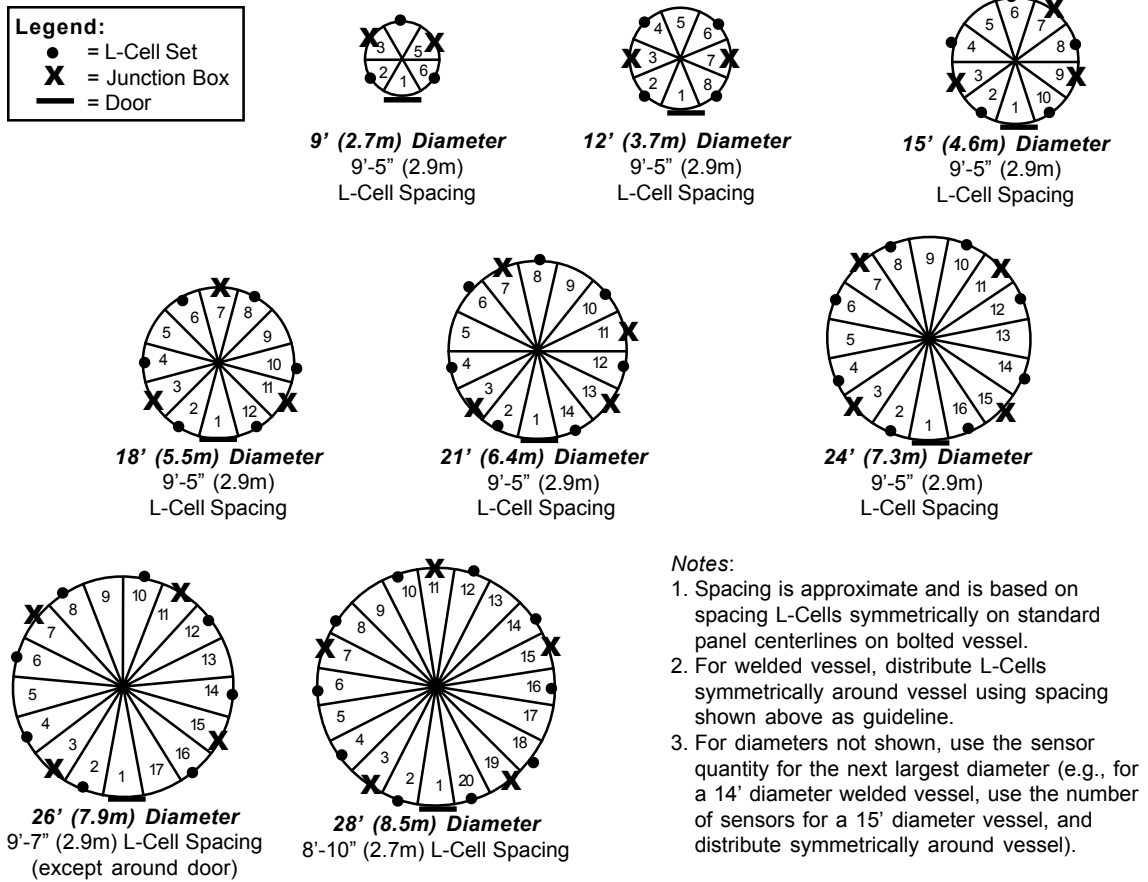

Figure 5-3. Plan View — L-Cell and Junction Box Locations (Carbon Steel)
See Figures 5-3 and 5-4. The skirt-supported vessel manufacturers' industry has standardized on bolted, skirt-supported vessel diameters and number of panels per diameter. Typically, the panels are approximately 5' (1.5m) wide x 8' (2.4m) high, with some overlap between panels. The mounting locations shown in Figures 5-3 and 5-4 are based on this industry standard.
**Example:** The Application Data Form indicates a 12' diameter bolted vessel. From Figure 5-3, a 12' bolted vessel has 8 panels around its circumference.
2. Locate junction boxes on panels 3 and 7. The junction boxes will be wired as follows: panel 3 box to L-Cells (4) on panels 2 and 4, and panel 7 box to L-Cells (4) on panels 6 and 8.
See Figures 5-3 and 5-4. The placement of L-Cells and junction boxes for welded vessels is similar to that for bolted. However, since there are no standardized panels, the L-Cell placement is based on the nominal distance between L-Cells shown in Figure 5-3.
1. From Figure 5-3, for a 12' diameter vessel, the spacing between sensors is approximately 9'-5". Locate L-Cell sets at 9'-5" spacings around the vessel, with the door centered between 2 L-Cell locations, for a total of 8 L-Cells (4 locations x 1 L-Cell set/location x 2 L-Cells/set).
1. From Figure 5-3, for the next largest size (a 15' diameter) vessel, there are 5 L-Cell locations. Calculate the L-Cell spacing for a 14' diameter vessel: